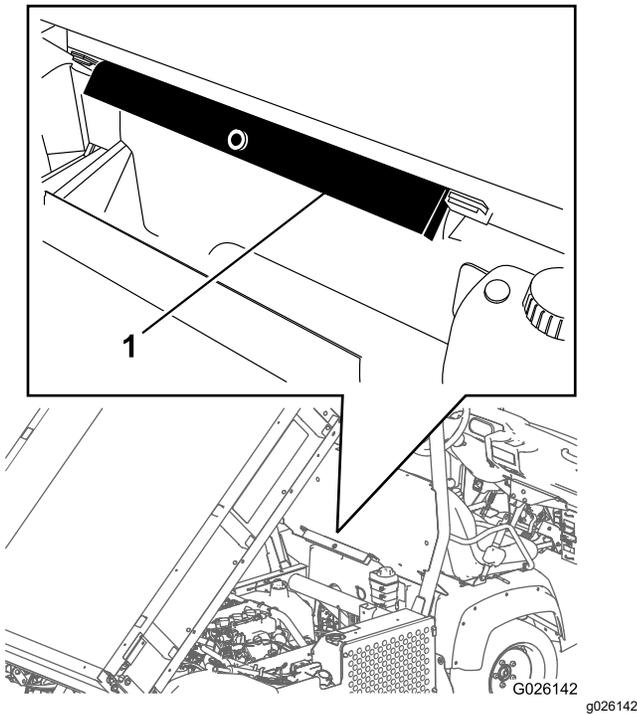

Figure 13
2. Remove the bed support from the storage brackets at the back of the ROPS panel (Figure 13).